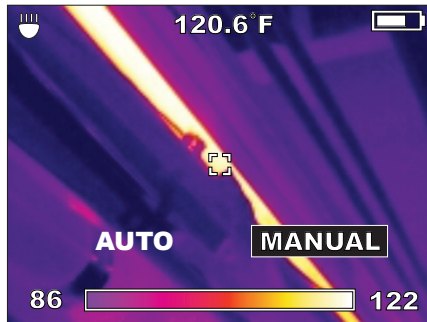

Figure 8. Live Thermal Image
5. Observe the live thermal image on the display as shown in Figure 8. Rotate the focus ring on the thermal sensor lens for maximum sharpness. Make small focus adjustments and wait for the image to settle before making another adjustment. Focusing has a different feel than it does with visual image cameras.
In the live thermal image in Figure 8, the 411.3 °F reading at the top of the display is the temperature inside the center target. The bottom of the display shows the color palette over the temperature span (in this case, 370 °F to 446 °F). Span is adjusted automatically in auto-range mode (default setting). This manual explains how to use manual range settings under “Optimizing Thermal Images.”
Figure 10 shows a visual image as it would appear on the display. This is the companion to the thermal image in Figure 8. There is no temperature data associated with a visual image. Visual images are to help you identify objects in thermal images.